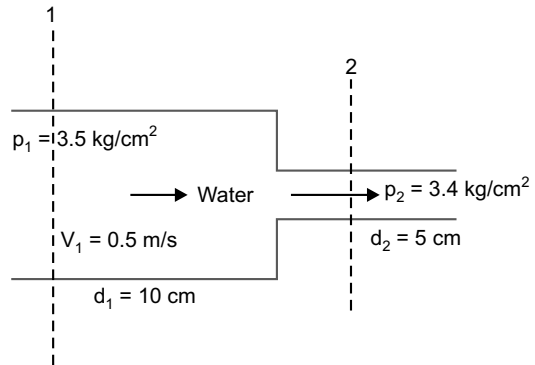

Fig. 13
Q. 62. The energy loss between sections (1) and (2) of the pipe shown in Fig. 13 is